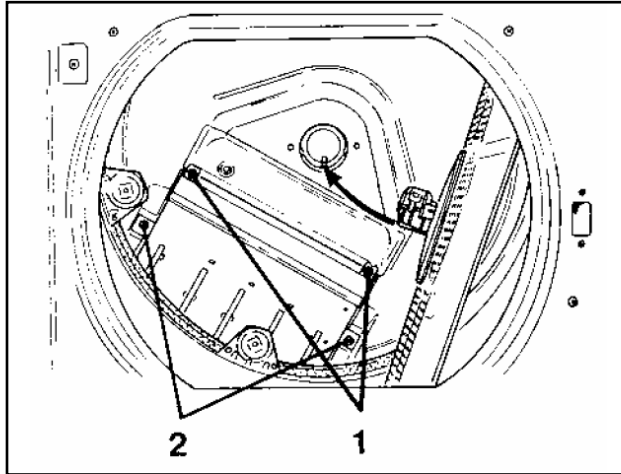

Figure 5-8: Heater Bank Removal (from Machine Nos. Prefix 10/... or 11/...)
2. Remove the two screws, refer to Figure 5-8 – Heater Bank Removal, Item 1, and take off the heater cover.
4. Turn the retaining screws, refer to Figure 5-8 – Heater Bank Removal, Item 2, one turn to release the heater bank and remove it by pulling upwards.